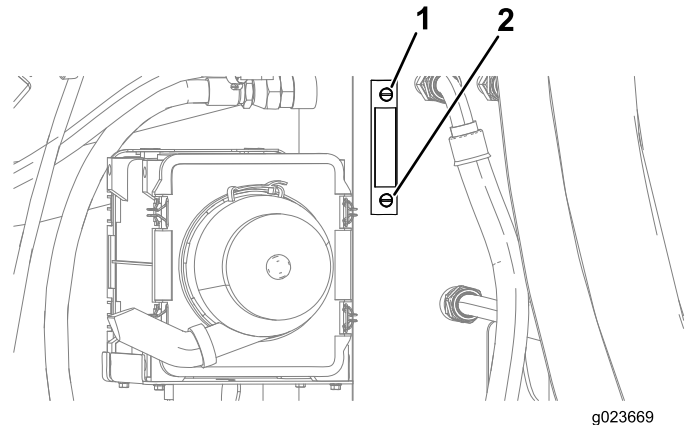

Figure 149
3. Look at the sight gauge on the hydraulic tank and check the level of the oil (Figure 149).